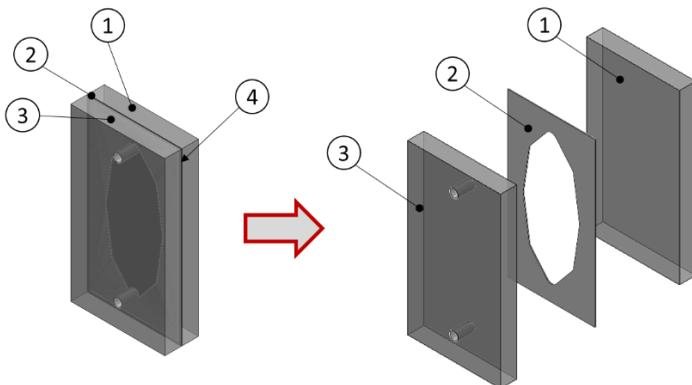
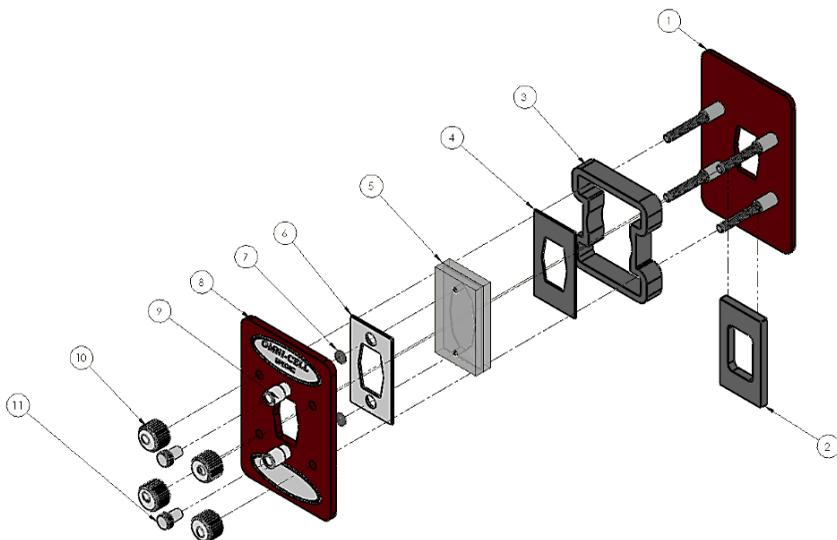

Figure 1: Sealed Window Assembly (assembled & exploded view) (GS022XY)
Figure 2: Omni-Cell Assembly (GS01800+GS022XY) exploded view.
A typical Sealed Omni cell is constructed as shown in Figure 2. The sealed window unit is shown in Figure 1. The sealed window unit arrives pre-assembled. It is composed of a stainless-steel spacer (2), of thickness x (see Table 1) sandwiched between 2 windows (1 & 3). The list of optical window materials available is shown in Table 2. An adhesive (4) holds and seals the window unit together. The known chemical compatibility matrix is shown in the Appendix section (7.1).
The sealed window unit (5) is to be used with an omni-cell mount (GS01800) as shown in Figure 2. The overall assembly is composed of a backplate (1), a cell nest (3), an optional spacer (2) sold as P/N GS01893 for ZnSe windows; for window thicknesses, see Table 2), a Neoprene gasket (4), a sealed window unit (5), and a gasket (6) attached to a front plate (8), as shown in Figure 2. The front plate has 2 Luer slip connectors (9) for filling and flushing samples into the cell. A Luer plug (11) is provided for each connector. FKM O-rings (7) are used to create the seal between the Luer slip connectors (9) and the front window ((3) in Figure 1). Quick-release nuts (10) are used to lock the cell together.
A recommended method for assembly is to place the back plate onto a flat surface. Build up the cell components as shown in Figure 2, but before fixing the quick-release nuts, hold the front plate centrally and apply even pressure over the whole assembly. Slip on the quick-release nuts and tighten until just holding. The nuts can then be tightened further but do so in a diagonal sequence.